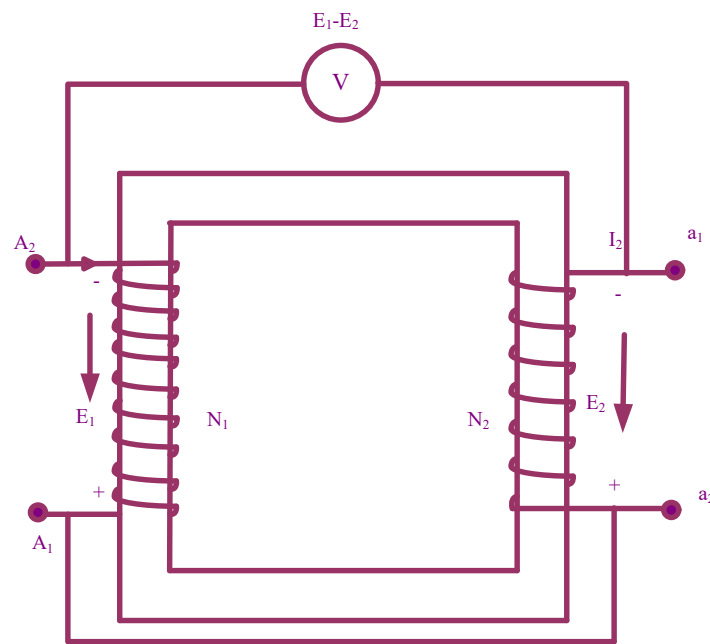

Fig. 1
- The rated voltage is applied to the primary and its two terminals are marked as A_1 and A_2 respectively as shown in Fig. 1 and 2.